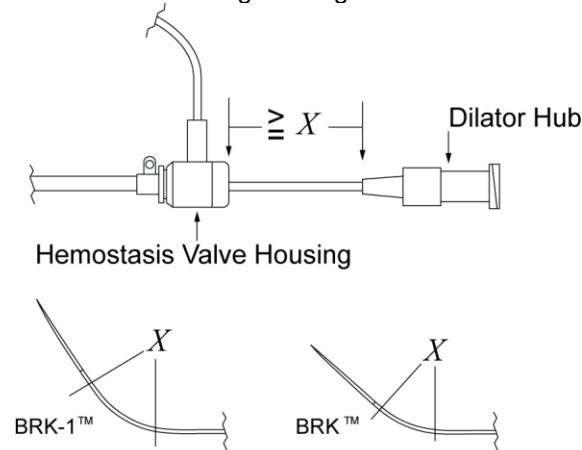

Figure 4
- Separate the sheath and dilator by withdrawing the dilator a distance sufficient to accommodate the needle curve. (See Figure 4) This will facilitate passage of the BRK Transseptal Needle curve through the rigid hubs of the dilator and sheath.